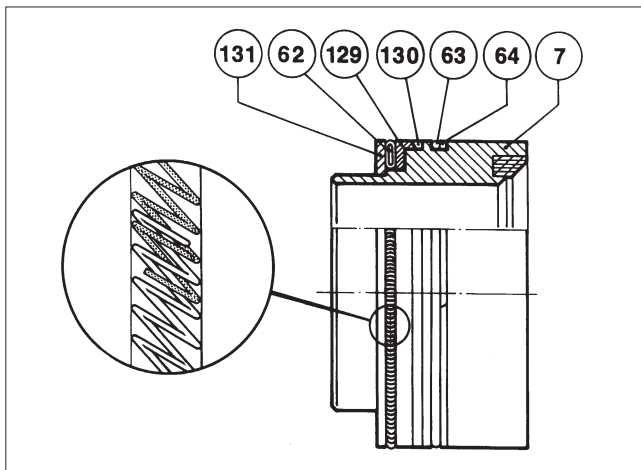

Fig. 16 R-seat (Fire Safe)
- Lubricate the O-ring (63) with silicone grease before installation.
- Install the O-ring (63).
- Install the support ring (64) into its groove. Cut the ribbon ends diagonally to make a flexible seam.
- Install the back seal (130) and the ring (129). See Fig. 16.
- Install the spring (62) into the seat body (7).
- Install the spring support ring (131).